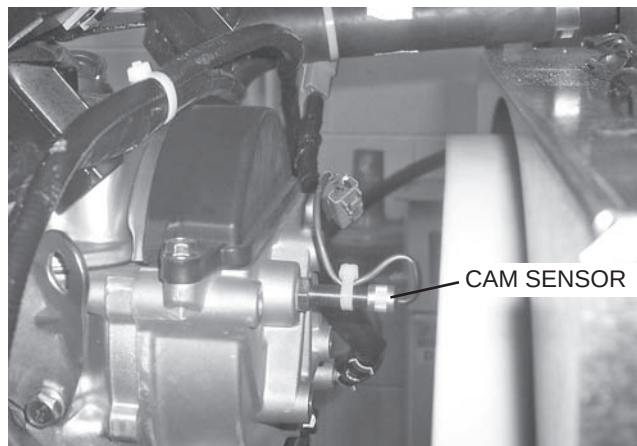

Figure 21. Cam Sensor
The camshaft position sensor (MPU2) identifies when Piston #1 is at Top Dead Center (TDC) of the compression stroke. The Ignition Control Module uses this information to synchronize the firing of the individual coils. The location of the Camshaft position sensor (MPU2) is shown in Figure 21.
1. Locate the Cam Sensor near the timing belt cover (see Figure 21).